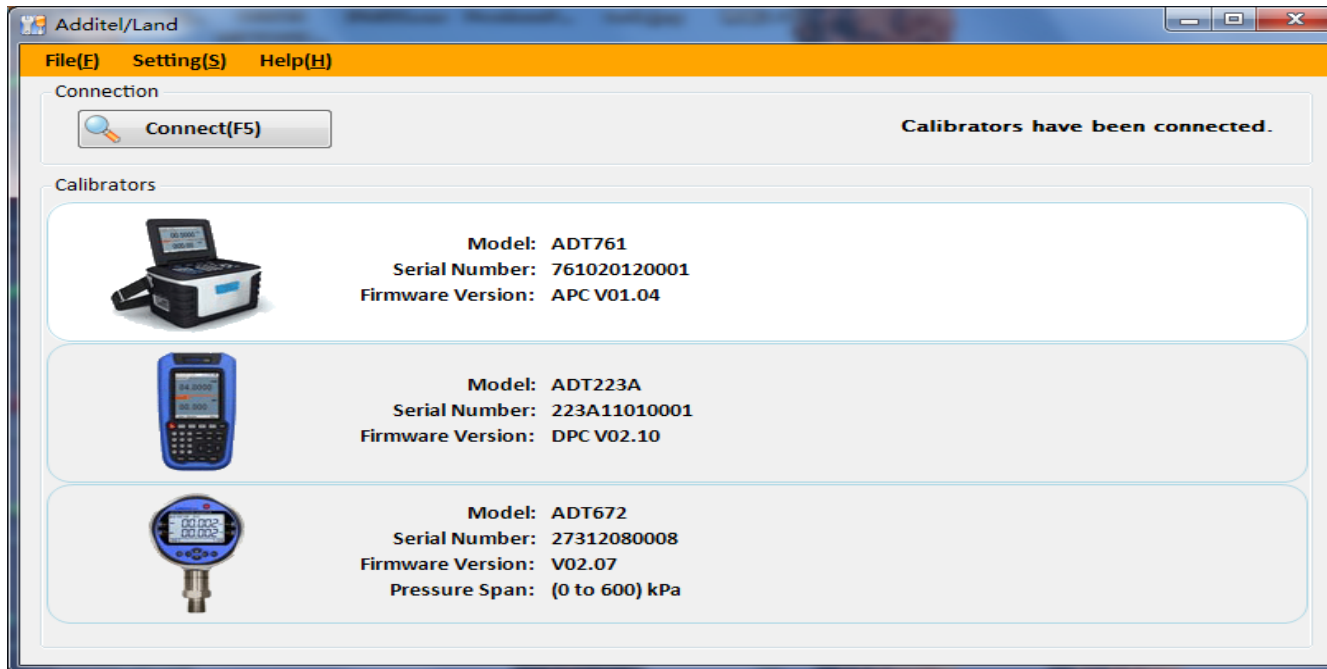

Figure 4.1
Figure 4.1 below, is the system's **HOME SCREEN**. This is the main screen you work from when you are using Additel/Land. It has the buttons and menu items used to activate every other branch and/or function of the system. An overview of this screen's sections is provided below. However, for more detailed information on any of the items mentioned, please refer to the pages dedicated to those topics in the other sections of this manual.
- To scan the calibrators connected with the PC by clicking the **Connect(F5)** box (or press the **F5** on the keyboard),you will see calibrators in the list on the bottom of the **HOME SCREEN**, and the message of “**Calibrators have been connected!**” on the right top of the **HOME SCREEN**. See figure 4.1 below.
This is the large section of the **HOME SCREEN** with the calibrators supported by Additel/Land. See figure 4.1 above.